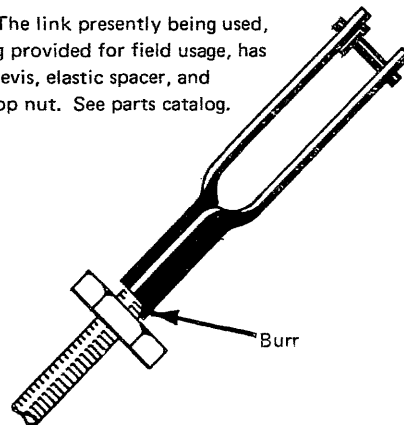

Figure 1-12. Burred Clevis
- 8.3 Figure 1-12 shows the operational interposer clevis and armature link. Each time one of the operational magnets is energized, the armature pulls on this link, which in turn pulls the interposer from its rest position and activates it. Each one of these links must be adjusted for proper unlatching clearance. A problem has been encountered where the locknut, when